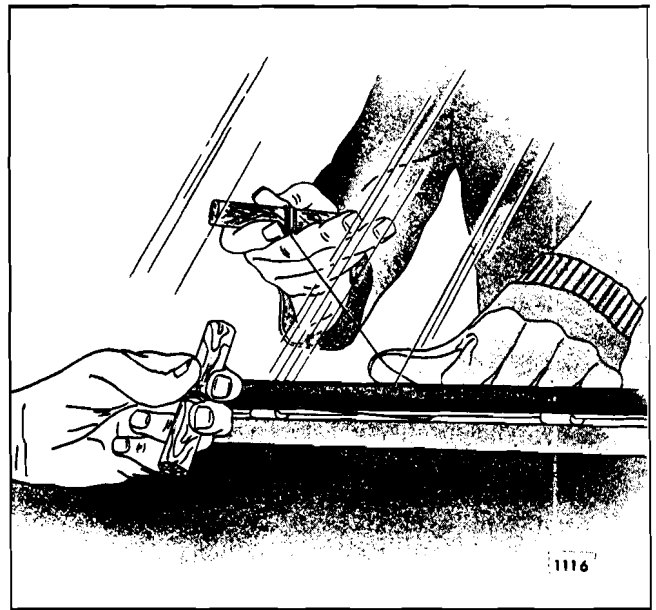

Fig. 4-2—Cutting Adhesive Caulk Material
5. Secure one end of steel music wire to a piece of wood that can serve as a handle (Fig. 4-2). Using long nose pliers, insert other end of wire through caulk material at edge of glass; then, secure that end of wire to another wood handle.
6. With the aid of a helper, carefully cut (pull wire) through caulk material around entire perimeter of window (Fig. 4-2). If "short method" will be used to install new glass, hold wire close to inside plane of glass to prevent cutting an excessive amount of adhesive caulking from the window opening. Keep tension on wire throughout cutting operation to prevent wire from kinking and breaking.